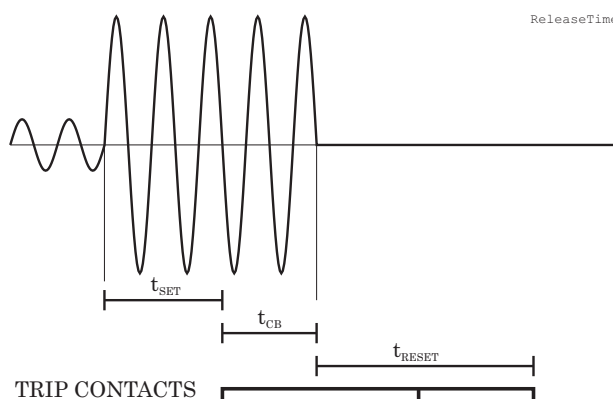

Figure 2.2-2. Reset time is the time it takes the trip or start relay contacts to open after the fault has been cleared.
Figure 2.2-2 shows an example of reset time i.e. release delay, when the device is clearing an overcurrent fault. When the device's trip contacts are closed the circuit breaker (CB) starts to open. After the CB contacts are open the fault current will still flow through an arc between the opened contacts. The current is finally cut off when the arc extinguishes at the next zero crossing of the current. This is the start moment of the reset delay. After the reset delay the trip contacts and start contact are opened unless latching is configured. The reset time varies from fault to fault depending on the fault size. After a big fault the time is longer. The reset time also depends on the specific protection stage. The maximum reset time for each stage is specified in chapter 9.3. For most stages it is less than 95 ms.